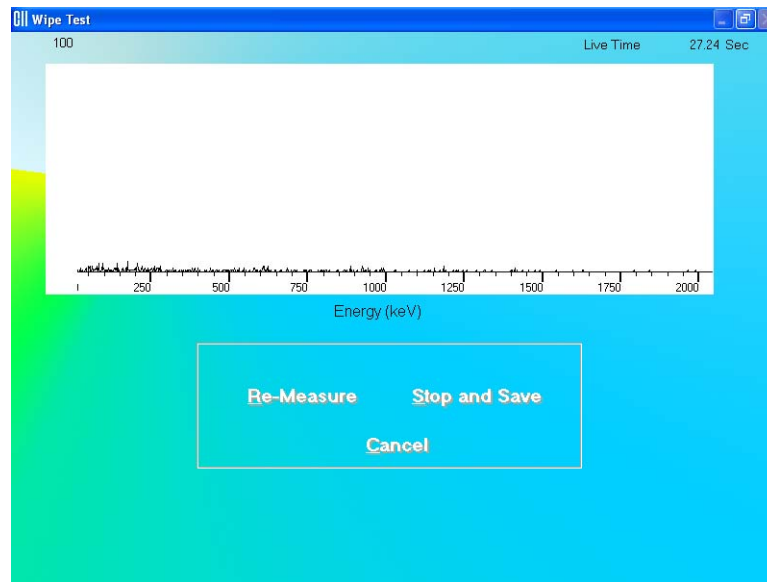

Figure 8-17
6. The screen appears as shown in Figure 8-17. The live spectrum is displayed with elapsed time shown at the upper right corner.
- Place the appropriate wipe in the Well and click the **OK** button. The screen appears similar to that shown in Figure 8-17 above while counts are being collected.